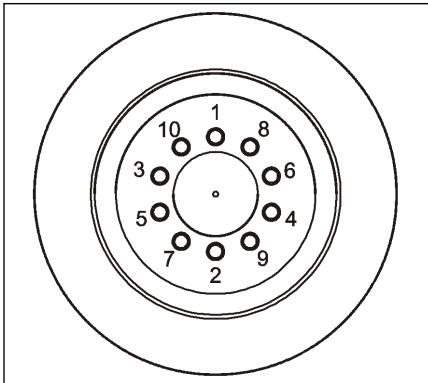

Figure 3-27: Tire Tightening Sequence
8. When installing the new wheel, tighten and torque the ten hex nuts and hardware in a staggered fashion, following the numbering pattern. **See Figure 3-27.**